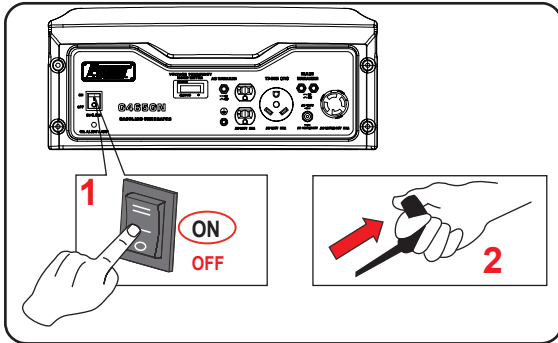

Fig 6 Recoil Start
- For manual start, turn the engine ON/OFF switch to the “ON” position. Pull the recoil handle (starter cord) slowly until resistance is felt, then pull rapidly. (See fig 6)